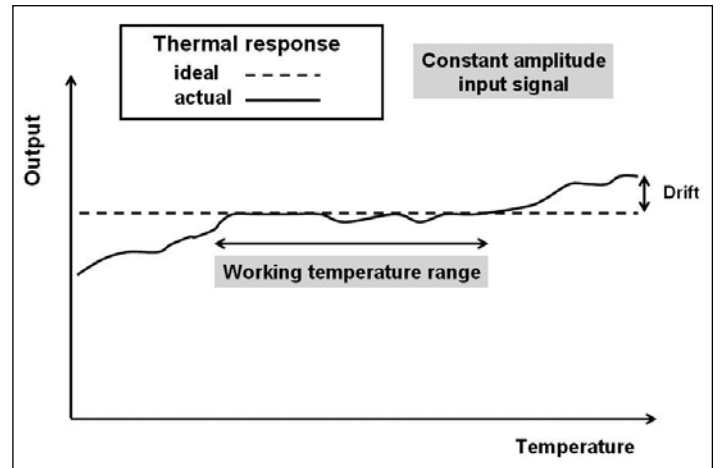

Figure 14. Example of an amplifier with thermal drift
- an output signal which does not drift with time or temperature (Figure 14)- achieved with careful design, re-zeroing and thermal compensation,